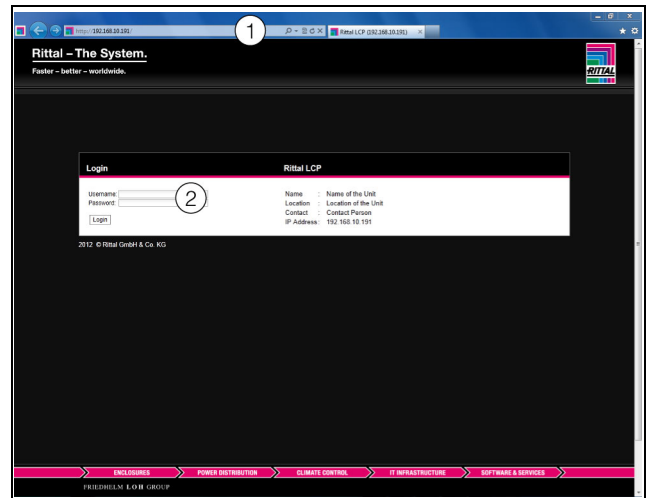

Fig. 87: Log-on screen with an HTTP connection
- In the browser, enter the address **http://192.168.0.190** (fig. 87, item 1). The log-on dialogue for registering the device will appear.
- Log in with the username **admin** and the password **admin** (fig. 87, item 2).